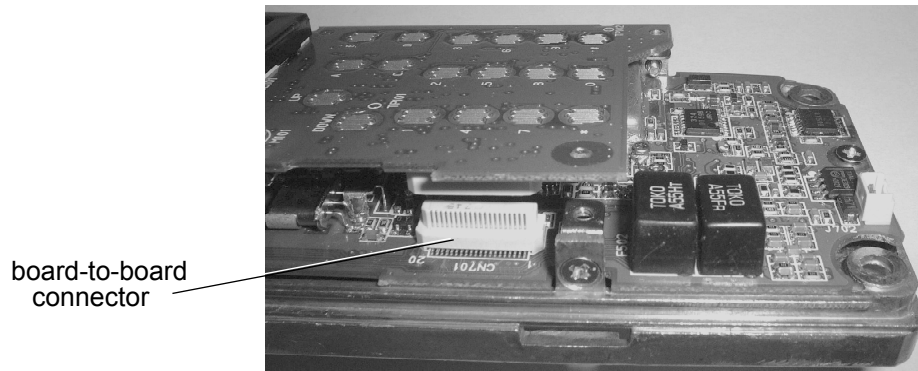

Figure 2-5
2. Remove the control board (the control board is connected to the RF board through a board-to-board connector -- see "Figure 2-5").